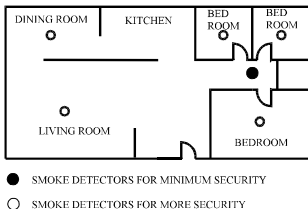

Figure 1: Locations for placing smoke detectors for single residence with only one sleeping area
- E** Install a smoke detector in the hallway outside every separate bedroom area, as shown in Figure 1. Two detectors are required in homes with two bedroom areas, as shown in Figure 2.